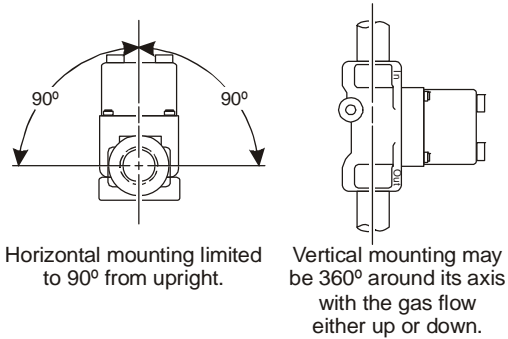

Figure 1: H91 Mounting Positions
6. Mount the H91 valve on a horizontal manifold with the magnetic operator pointed up (vertical) or in a position not exceeding 90° from vertical. The valve may also be mounted on a vertical manifold in any position around its axis (Figure 1).